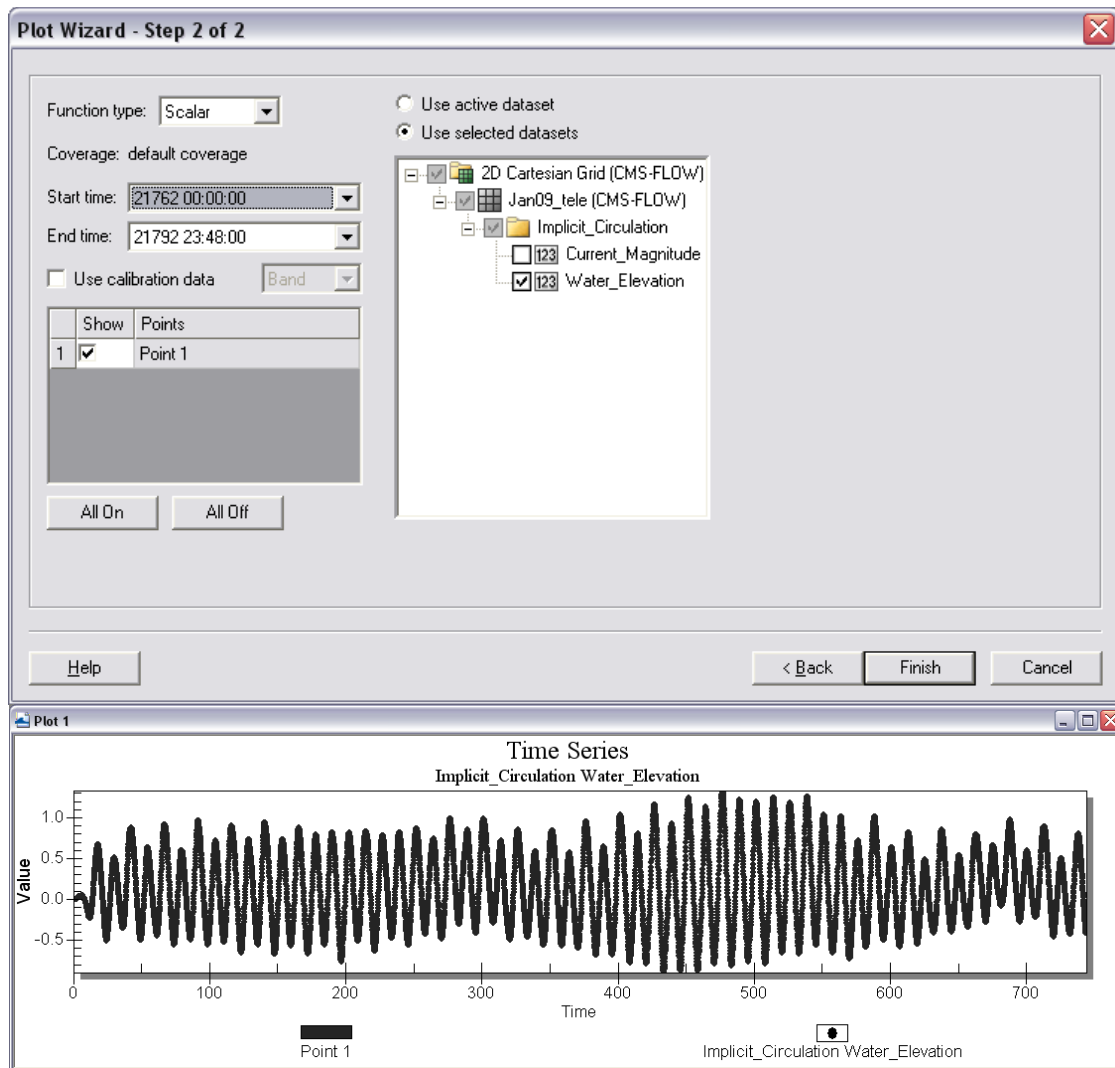

Figure 8.1.4. Plot Wizard for time series data (top); Time Series plot of Water Elevation (bottom).
1. Time plots can be compared within SMS through their software plotting package. To create a plot select *Display|Plot Wizard|Time Series* and select *Next*. The *Function* is *Scalar*, and the *Water Elevation* scalar dataset should be selected with the full time period (Figure 8.1.4).